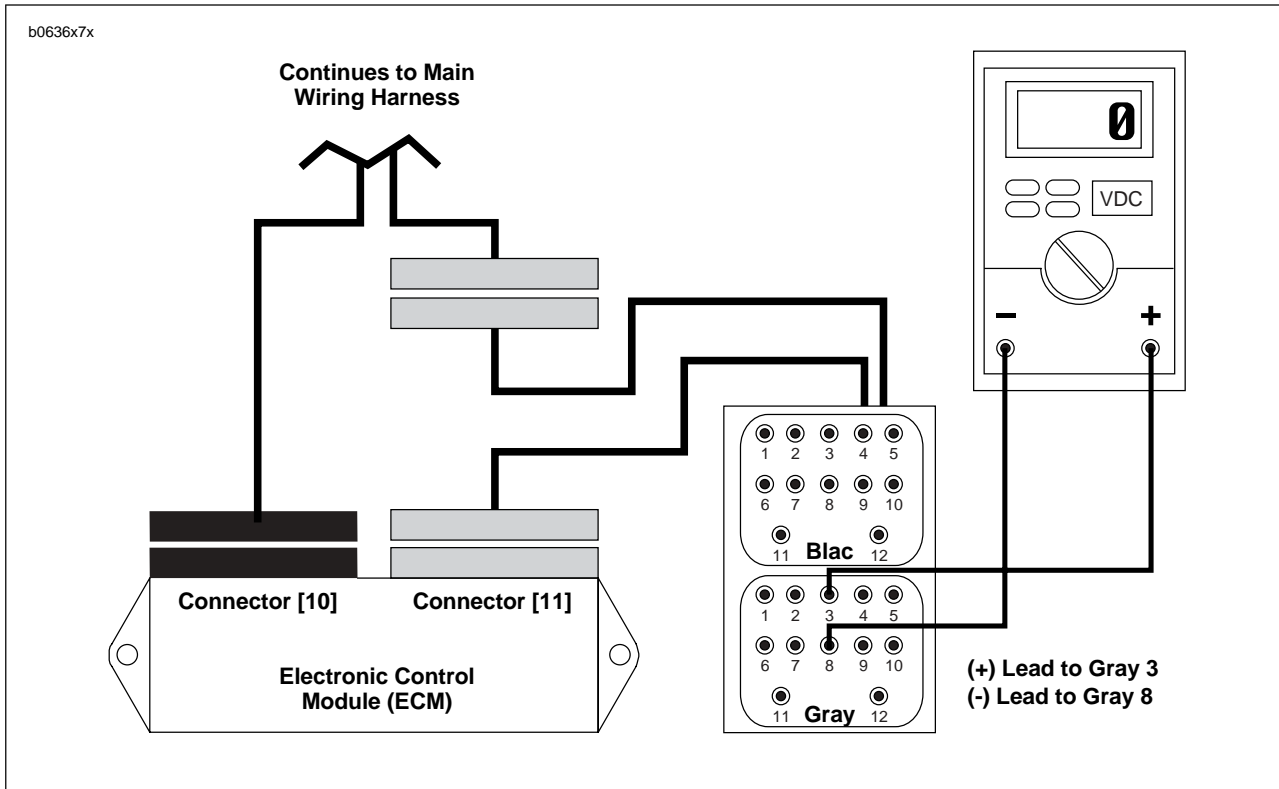

Figure 1-47. Static Timing Connections
5. See Figure 1-47. Attach test components.
- c. See Figure 1-47. Loosen two screws (5) on cam position sensor (7). Rotate sensor clockwise until the voltmeter registers the change from 0.0-1.0 VDC to 5.0 VDC (+/- 0.5 volts).
- d. Tighten both sensor screws (5) to 10-20 **in-lbs** (14-27 Nm).
7. Install inner cover (4), inner cover screws (3), outer cover (2) and **new** outer cover rivets (1).